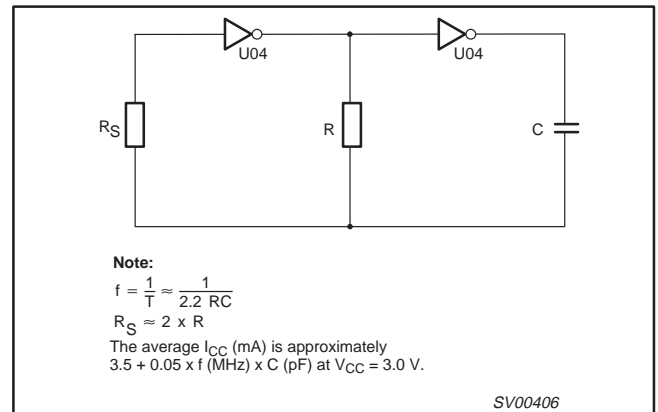

Figure 6. LVCU04 used as an astable multivibrator.
- Astable multivibrator (see Figure 6)
**Note to Figure 6**